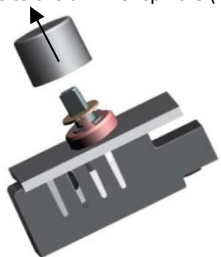

Figure 3
2. Remove the dimmer knob by pulling it away from the dimmer to gain access to the dimmer spindle (Figure 3).